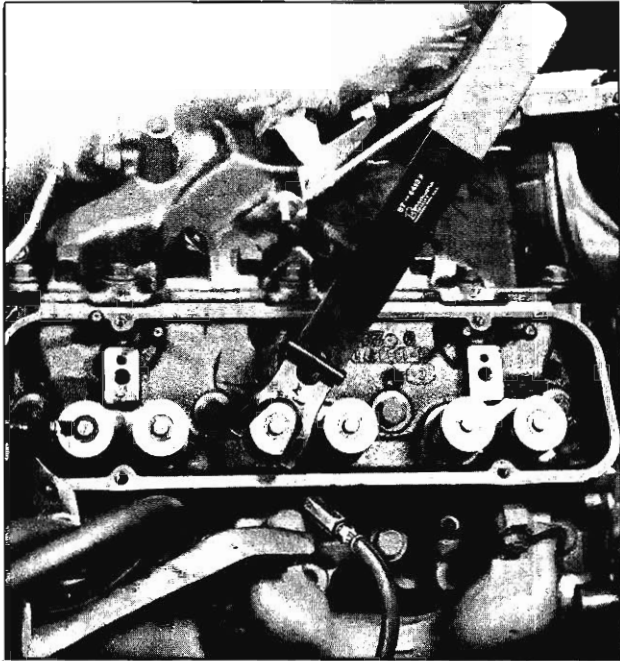

Fig. 3-112 Valve Spring Removal
3. Using Tool BT-6413 compress valve spring as shown in Fig. 3-112 and remove valve cap retainers, valve cap and valve spring.